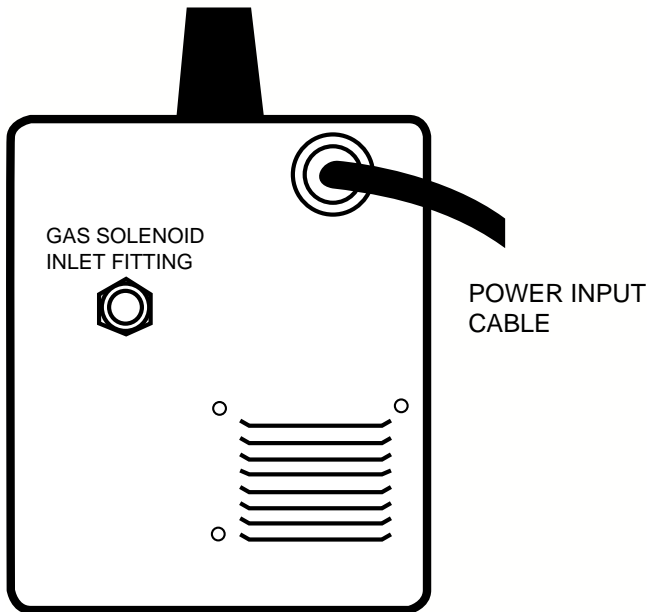

FIGURE A.6
4. Refer to Figure A.6. Attach one end of inlet gas hose to the outlet fitting of the flow regulator and tighten the union nut securely with a wrench. Connect the other end to the SP-135T Gas Solenoid Inlet Fitting (5/8-18 female threads — for CGA — 032 fitting). Make certain the gas hose is not kinked or twisted.
Refer to Figure A.6.